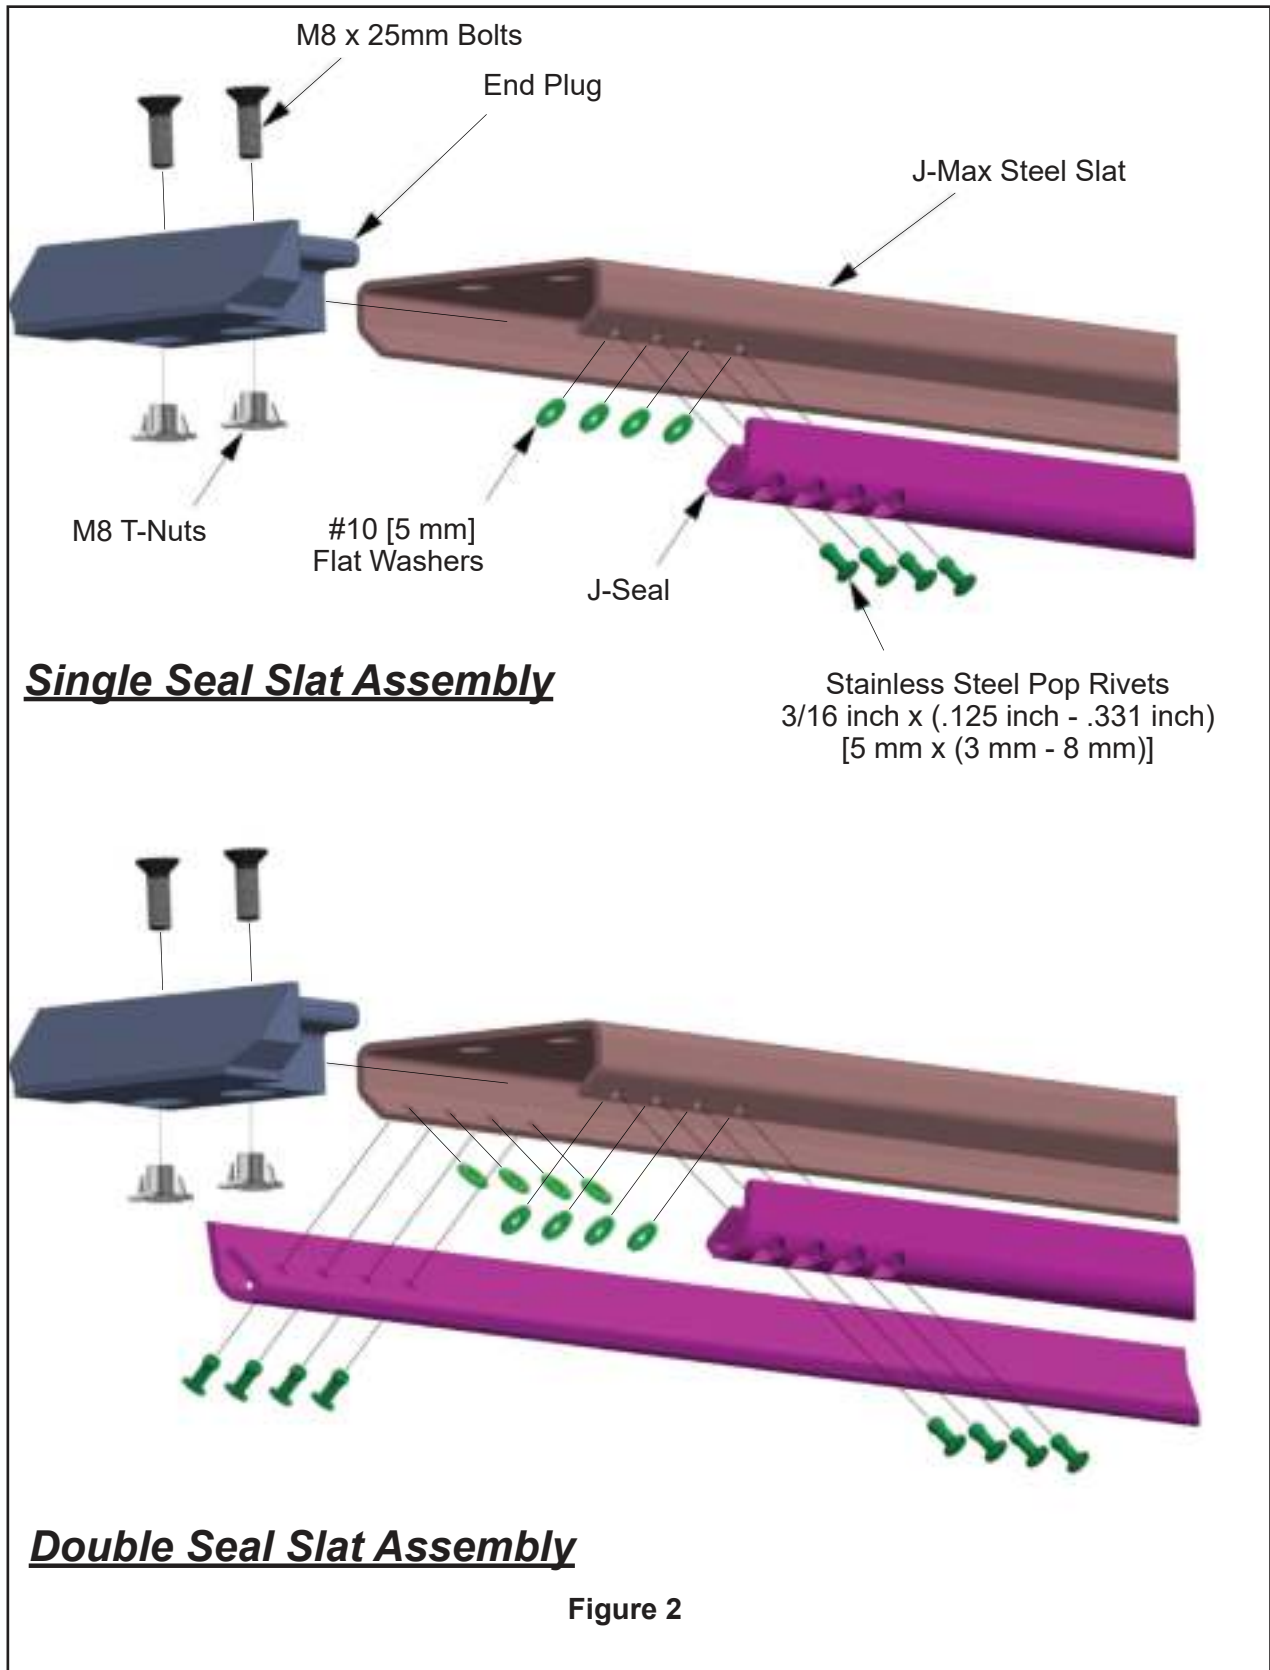

Figure 2
B. J-MAX slat assembly detail. (See Figure 2)